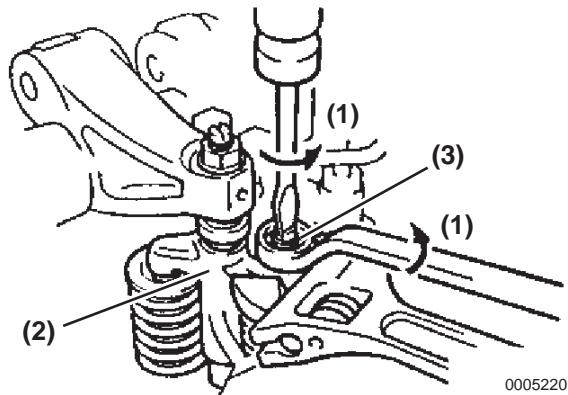

Figure 5-221
1. Loosen **(Figure 5-221, (1))** the lock nut on the valve bridge **(Figure 5-221, (2))** and adjust the adjusting screw **(Figure 5-221, (3))** until the two bridge heads come into contact with the two valve stem heads.